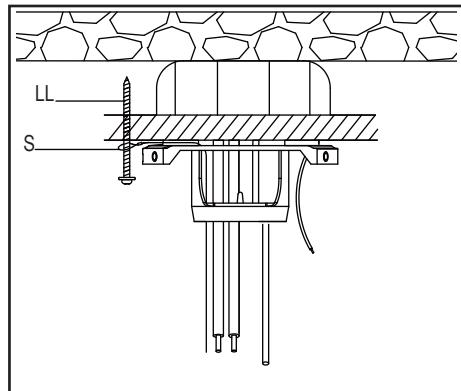

Figure 10
1. Turn the wood screw (LL)(not provided) into the ceiling.
2. Place the looped end of the safety cable (S) onto the wood screw and then tighten the screw firmly, or connect the safety cable directly to the electrical box. (Figure 10)